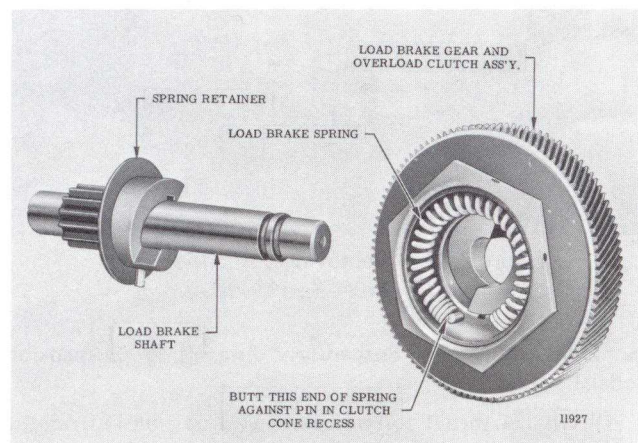

Figure 7-27. Load Brake Gear and Overload Clutch Assembly Removed from Load Brake Shaft Showing Brake Spring Installed in Clutch Cone
(3) Remove load brake gear and overload clutch assembly from output pinion shaft. Pull the spring from its recess in clutch cone (fig. 7-27) but do not further disassemble gear and clutch assembly. see "NOTE" below.
**NOTE:** Disassembly of the load brake gear and overload clutch assembly (fig. 7-27) is not recommended. Clutch pressure is preset by the factory at assembly to provide the correct torque to allow the clutch to refuse loads within a specified range (110% of rated load to 180% rated load). It is suggested whenever there is a need to repair or readjust the gear and clutch assembly that it be sent to an authorized **BUDGIT** Hoist Repair Station where adequate tools, fixtures and appropriate test equipment is available.
(4) The load brake pawl and ratchet is a riveted assembly and is not to be disassembled.
(1) Before assembly, all parts should be cleaned and inspected to determine their serviceability. Replace parts that are excessively worn or damaged.
(2) Reassemble load brake parts following a reverse procedure of the disassembly steps listed above, observing the assembly steps (3) thru (6) below.
(3) Before installing spring in its recess in center of clutch cone (fig. 7-27) apply a good grade of ball bearing grease to inside of recess. Spring must be positioned exactly as illustrated, butted against pin.